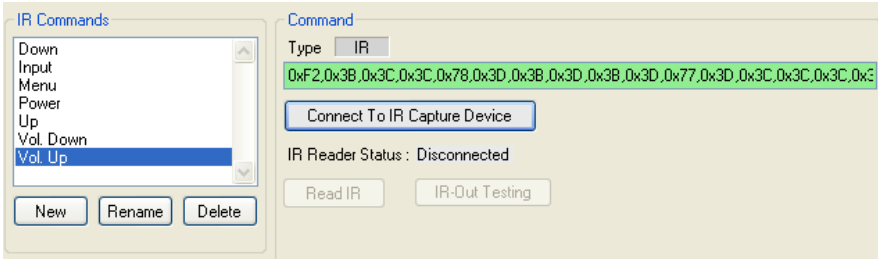

Figure 13: IR Command Area Window
2. In the Command area, click the Connect to IR Capture Device button (see Figure 13), select the port and click OK:
The IR command appears, as illustrated in Figure 13: